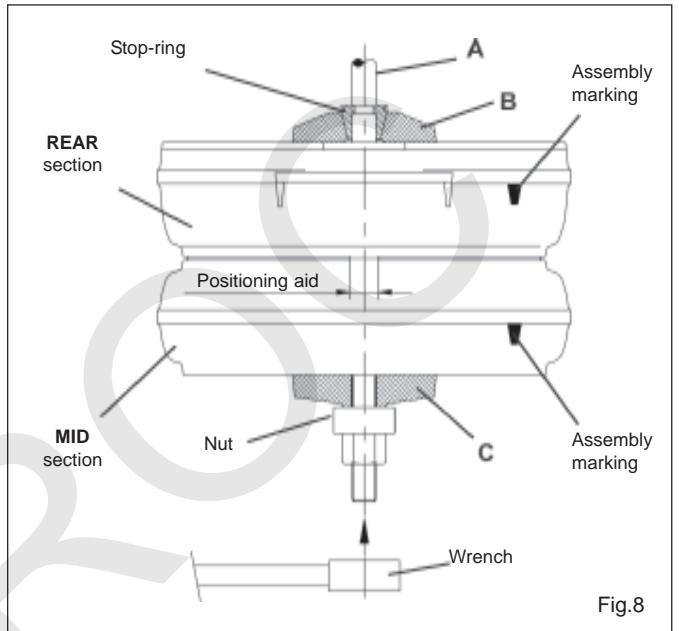

Fig.8
- 7.- Proceed with tightening until the sections touch, and check it by looking in the combustion chamber and the upper flueways (fig. 8).